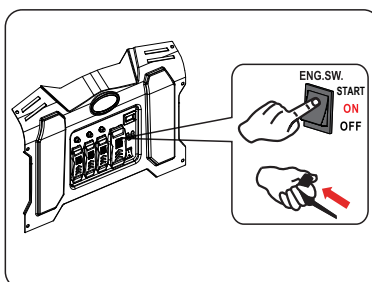

Fig 13 Recoil Start
- For manual start, turn the engine START/ON/OFF switch to the “ON” position. Pull the recoil handle (starter cord) slowly until resistance is felt, then pull rapidly. (See fig 13)